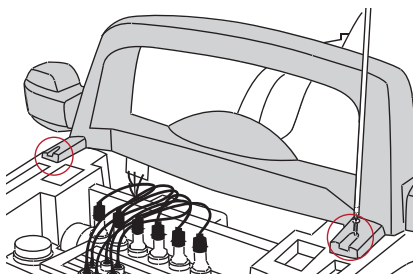

Figure 20
- Place the windshield on the dashboard, make sure the side mirrors are facing the rear of the vehicle, so that the four screw holes in the windshield line up with the four screw holes in the vehicle. See Figures 20 and 21.
- To secure the windshield screw a black wide head screw into each of the 4 holes. See Figures 20 and 21.